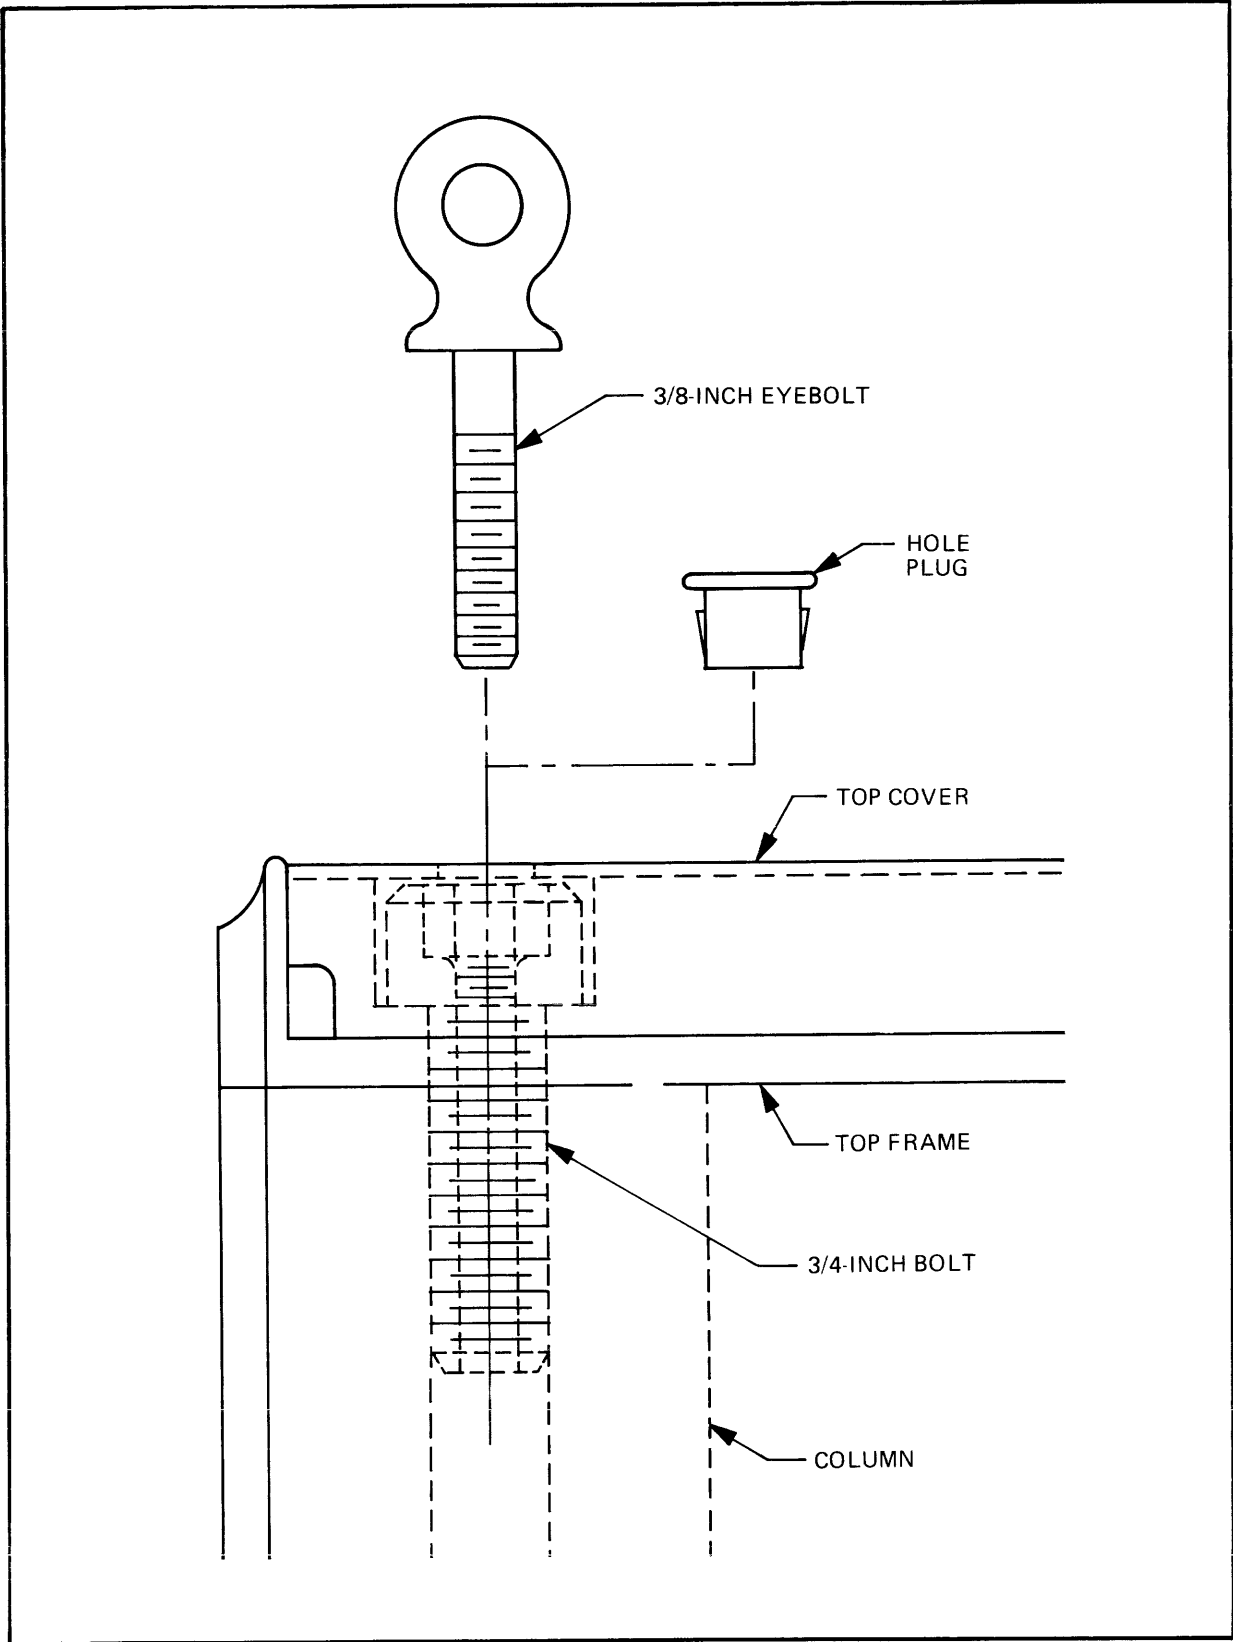

Figure 2-5. Eyebolt Insertion, Side View
**Casters and Eyebolts.** The cabinet may easily be rolled over a smooth, flat surface on four casters. Where surface conditions make rolling impractical, the cabinet base is sturdy enough to permit lifting by a forklift. The cabinet may also be lifted by an overhead hoist, by means of four eyebolts. Eyebolts do not come as part of the cabinet, but the cabinet is equipped to accommodate them. The four 3/4-inch bolts that secure the top frame to the columns are internally drilled and tapped (figure 2-5) to receive a 3/8-16 UNC bolt. After removing four hole plugs in the top cover, eyebolts may be easily threaded into the four frame bolts and used as lifting points.